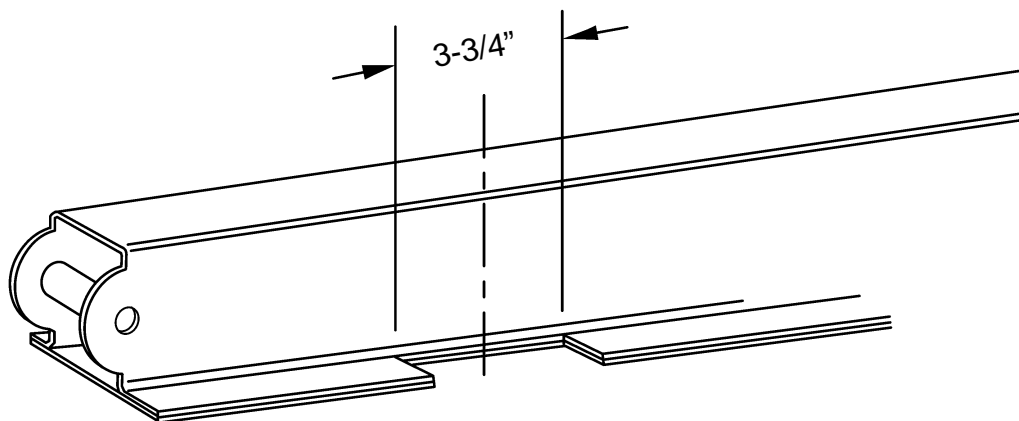

Figure 3
5. Remove the U-bracket that is welded to the outside of the frame at the centerline. Next, trim off the outer flange of the frame flush with the side of the frame for a section of 3-3/4" (1-7/8" forward and rearward of the centerline). See figure 3.